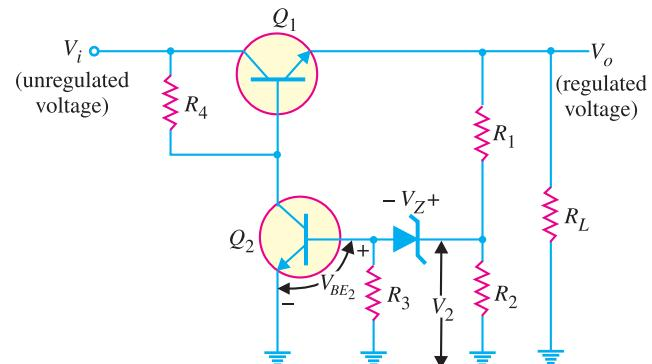

Fig. 17.33
3. What regulated output voltage is provided by the circuit of Fig. 17.33 for circuit elements :  $R_1 = 20\text{ k}\Omega$ ,  $R_2 = 30\text{ k}\Omega$  and  $V_Z = 8.3\text{V}$ ? [15 V]